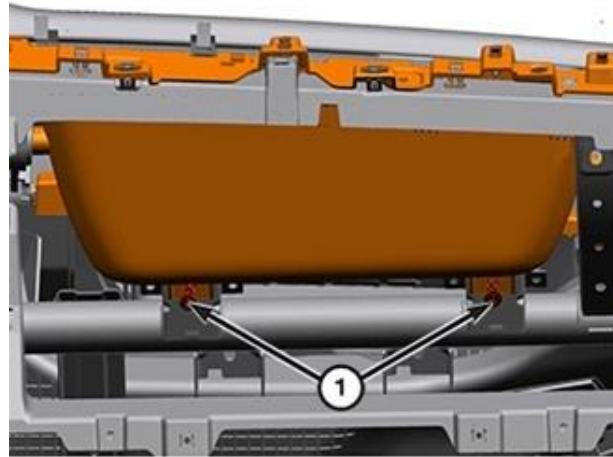

Figure 12 – Glove Box Opening
20. Reaching through the lower glove box opening, remove the two fasteners (1) located at the rear of the upper glove box (Figure 12).
41. Reaching through the lower glove box opening, install the two upper glove box fasteners (1) at the rear of upper glove box and tighten securely (Figure 12).